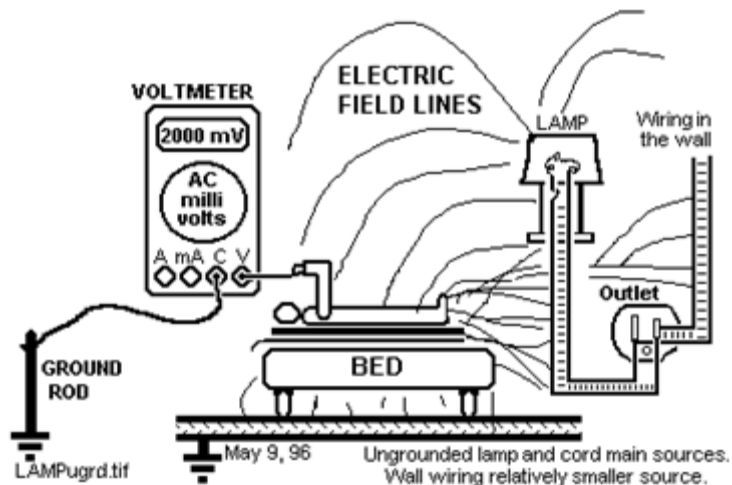

Figure 4 - Body Voltage Testing
5. **Set up** the test equipment (earthing rod, person, voltmeter). The test subject should lie on the bed where they sleep and hold the hand electrode connected to the AC Voltage input of the meter and the designated test earth rod (**Figure 4**).